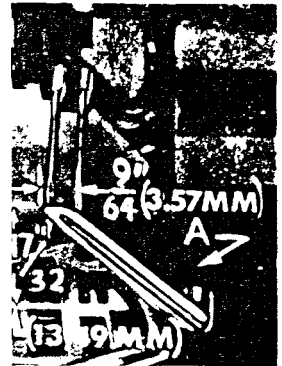

Fig. 10
Next, turn the handwheel until the upper looper is at the left end of its travel. Check dimensions of upper looper point with respect to the RIGHT needle and throat plate (Fig. 10). Looper point should be $\frac{9}{64}$ inch (3.57 mm) to the left of centerline of RIGHT needle and $\frac{17}{32}$ inch (13.49 mm) above throat plate (Fig. 10). If resetting is necessary, do it by moving the upper looper holder (A, Fig. 10). NOTE: Figure 10 represents the correct dimensional settings.
If it becomes necessary to move looper thread pull-off (AF), be sure to take up all end play in needle drive shaft before tightening. If upper looper is located so that it is higher over throat plate than recommended in (Fig. 10), the purl will tend to form near the top edge. If upper looper is too low, the purl will form nearer the bottom edge.